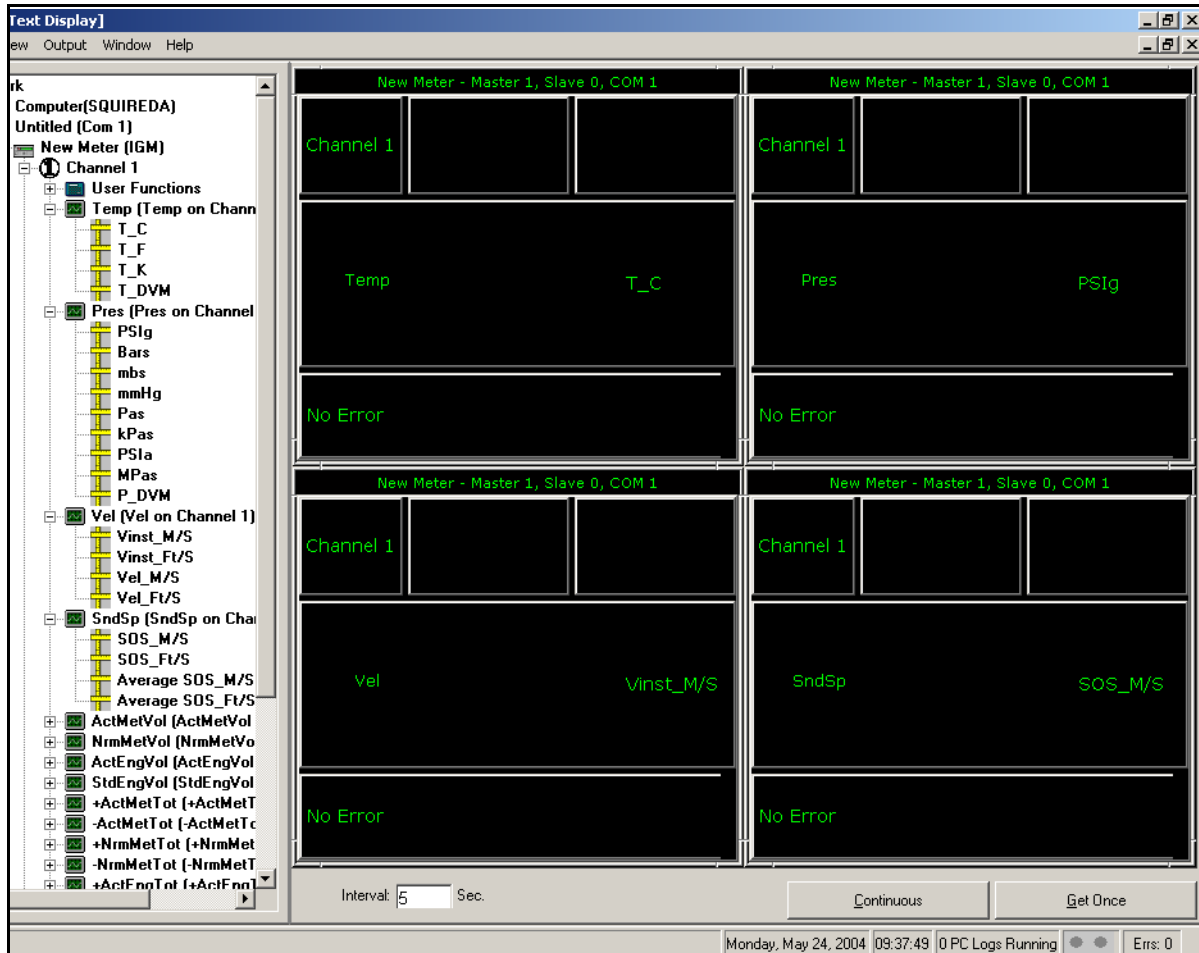
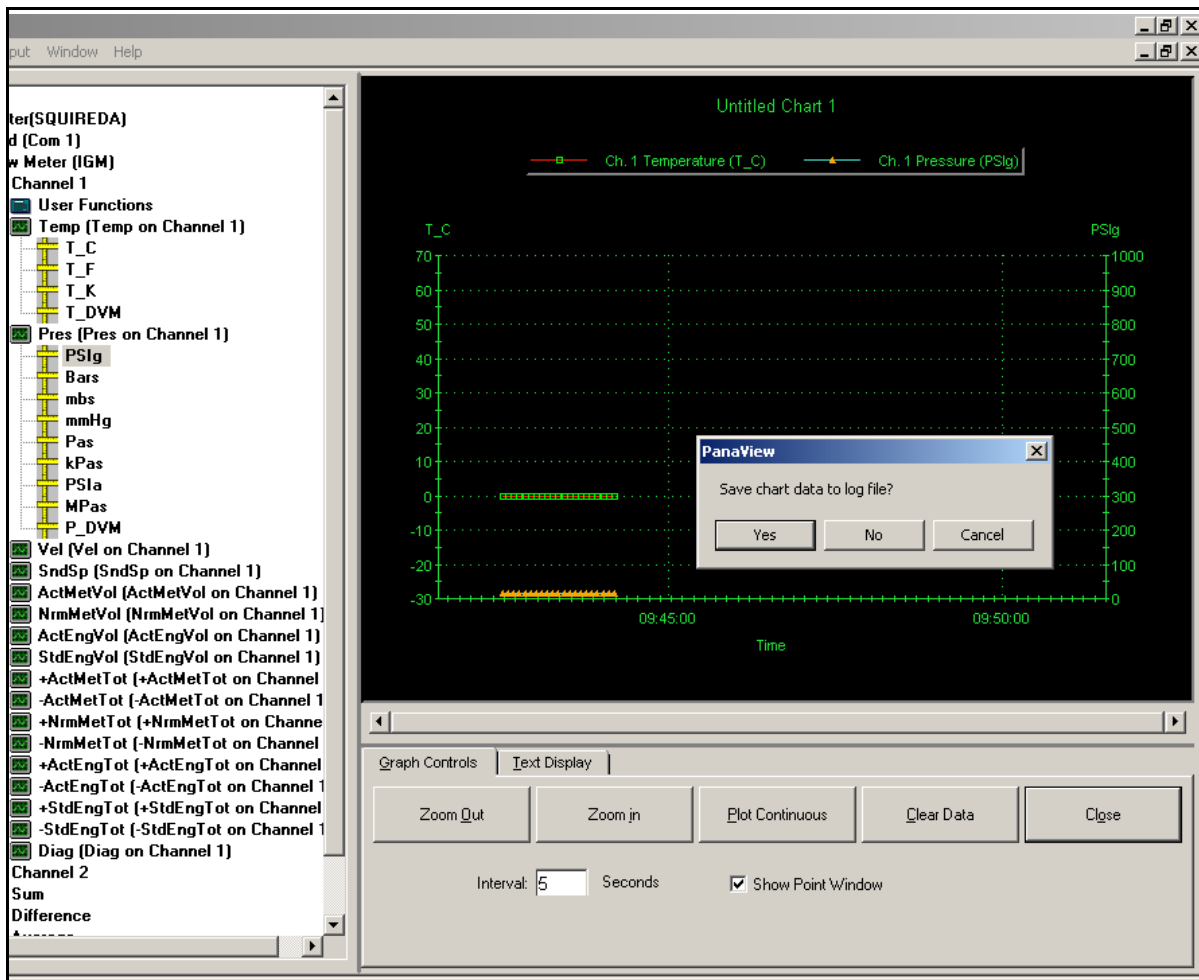

Figure 62: PanaView Measurements Display in Text Format
Figure 63: PanaView Measurements Display in Graph Format
6. Double click on the measurement(s) desired and, depending on the number of parameters chosen and the format that was selected in Step 3, a display similar to either that shown in *Figure 62* below or *Figure 63* on page 73 will appear